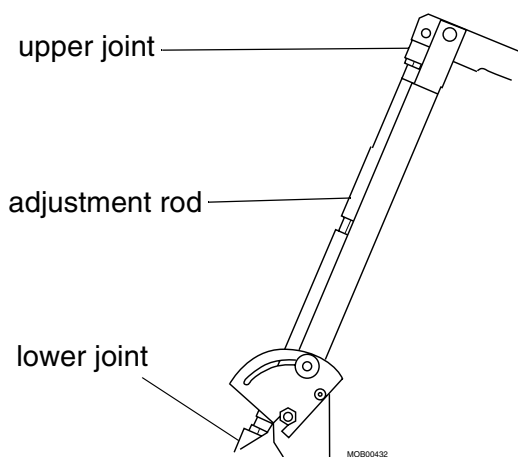

Fig. 40 Adjustment rod
7. Remount the adjustment rod (Fig. 40). The upper arm has to be raised in order for the adjustment rod to fit in the upper joint.